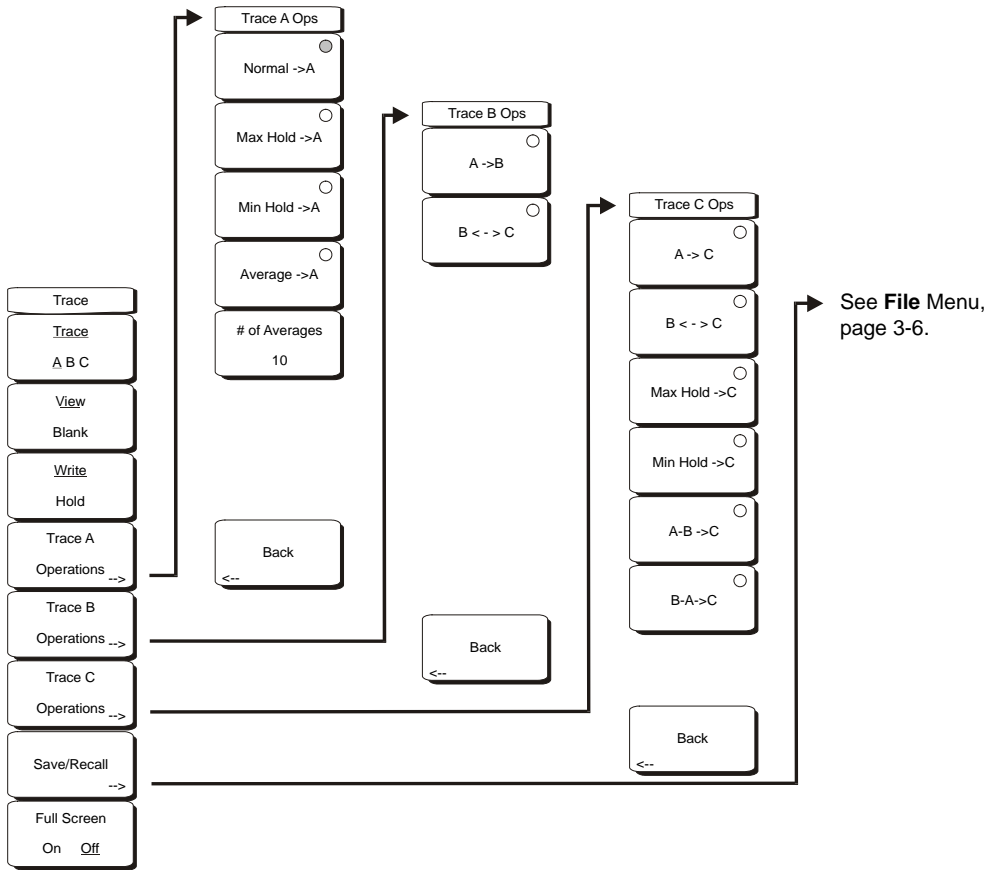

Figure 3-14. Trace Menu Soft Keys
To access the functions under the Trace menu, select the **Shift** key, then the **Trace (5)** key. The Spectrum Master is capable of displaying up to three traces, one with live data, Trace B with either live data or a stored measurement and Trace C with a stored measurement. The Trace menu soft keys are shown in Figure 3-14.